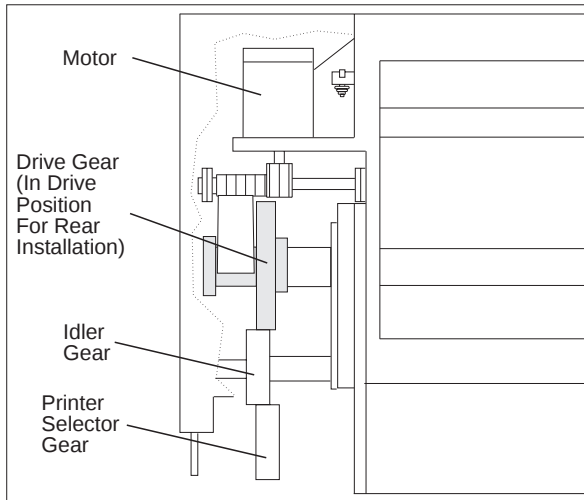

Figure 81. Tractor In Drive Position, Rear. Tractor shown installed in rear position, with drive gear engaged (right end cover removed, for clarity).
1. Install a tractor assembly in the rear push position and install fanfold forms in the tractors. See Figure 81 on page 328.
Figure 81 on page 328 shows a tractor assembly installed in the rear push or pull position with the gear in the drive position. The drive gear is driven by the idler gear. The idler gear is driven by a series of gears on the left side of the printer. The printer gears determine the direction the paper is fed. See Figure 67 on page 313 for rear pull gear rotation. See Figure 71 on page 317 for rear push gear rotation.